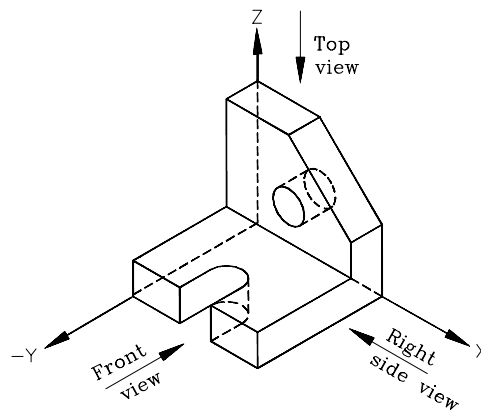

Figure 22-17 Align the object with the imaginary X , Y , and Z axes
3. Picture the object in your mind, and align it along the imaginary X , Y , and Z axes (Figure 22-17).